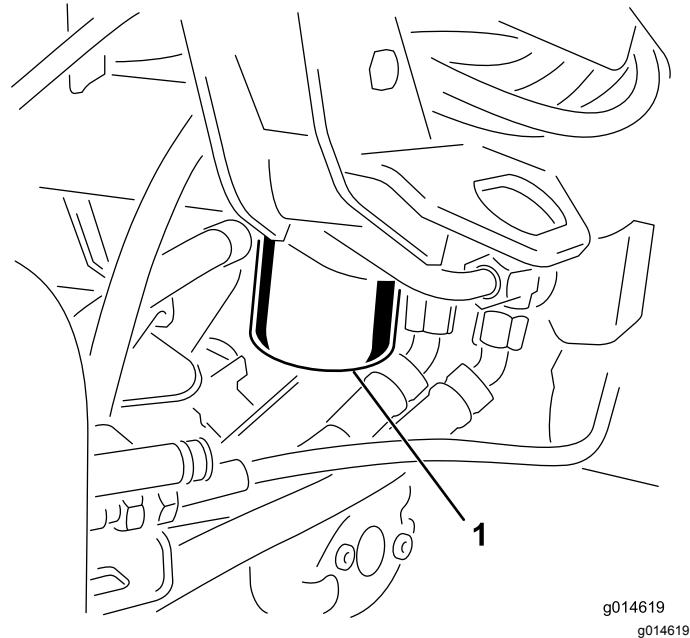

Figure 41
1. Clean the area around the filter mounting area (Figure 41). Place a drain pan under the filter and remove the filter.